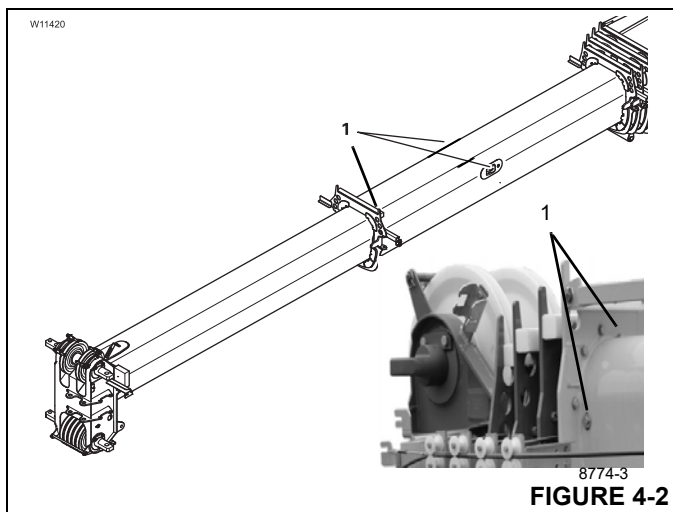

FIGURE 4-2
- Apply Loctite 243 and tighten the bolts (1, Figure 4-2) by hand until the washer is within 0.5mm of the boom. Check periodically to ensure bolts remain snug and washer turns freely.